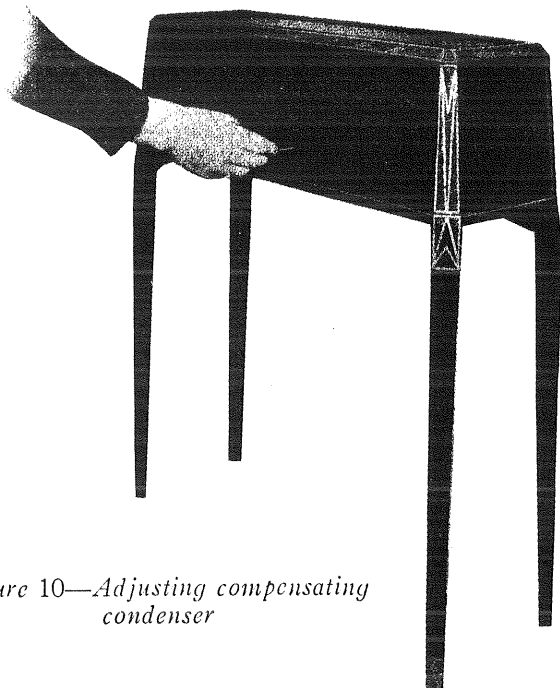

Figure 10—Adjusting compensating condenser
- (b) Locate the position of the compensating condenser adjusting screw at the rear of the receiver assembly. (See Figure 10.)